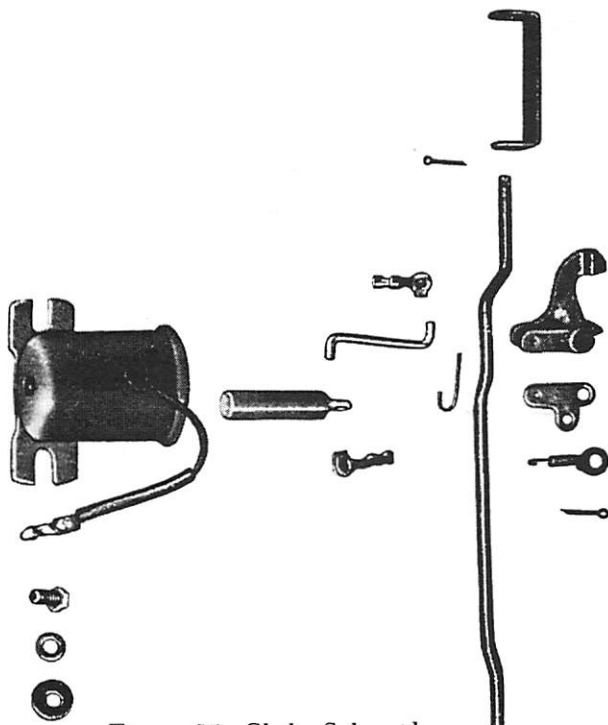

Figure 15. Choke Solenoid
C. Choke Solenoid, 4 and 2 Cylinder Motors (Figure 15)